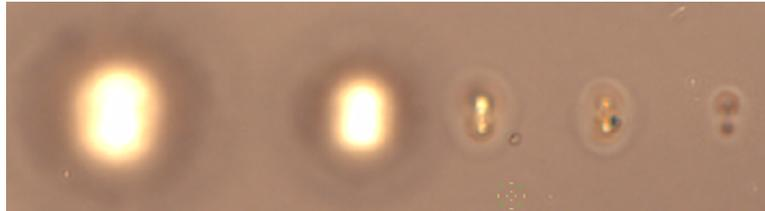

Figure 6.12: Results of black ink calibration
5. Reduce the laser power to minimize the hole size. Different laser intensities (20%, 10%, 5%, 2.5%, 1%) are shown in Fig. 6.12. The asymmetry is caused by the laser getting into the right position after activation